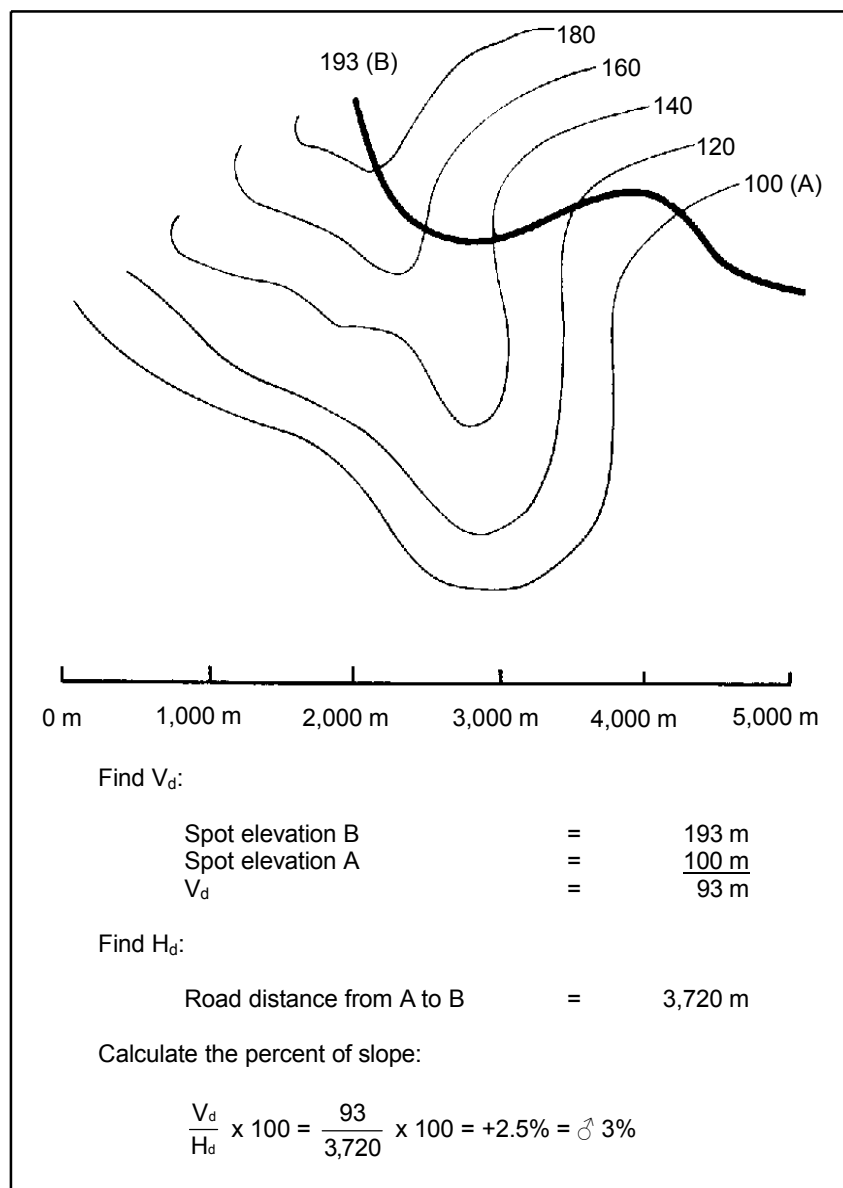

Figure 1-3. Map Method to Determine the Percent of Slope
(1) A large-scale map (1:25,000) may be used to approximate the percent of slope. After the slope has been identified on the map, the difference in elevations between the top and bottom of the slope is found by reading the elevation contours or spot elevation. Then the horizontal distance is measured. Both of these values must be in the same unit of measure. The values obtained for horizontal and vertical distances are then substituted in the percent-of-slope formula and the percent of slope is computed. This method is not suitable where a cut or a fill has been used to reduce the gradient of the route. *Figure 1-3, page 1-4*, shows an example of using a large-scale map to determine the percent of slope on a route.